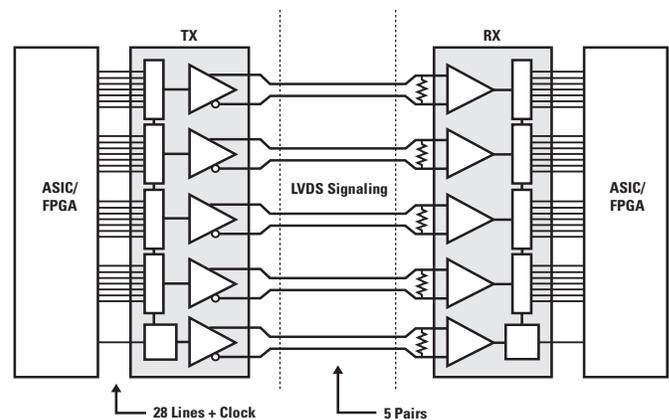

Figure 1-3. Channel Link (I) – DS90C285/86 with 29-to-10 Wire Compression
The 28-bit chipset has been widely adopted in many applications, including a de-facto frame grabber standard called “Camera Link”. This version of Channel Link (I) supported 24-bit RGB (8 bpp), three video control signals, and one general-purpose signal for 28 data bits total, serializing them down to four LVDS data pairs and one LVDS clock pair (five pairs, 10 pins total). This gave rise to its nickname: “many-to-few” and is shown in **Figure 1-3**.